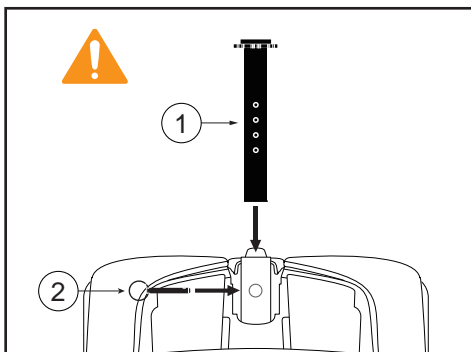

Figure 11
2. Move the seat post to the new position and refit the detent pin (see figure 11).